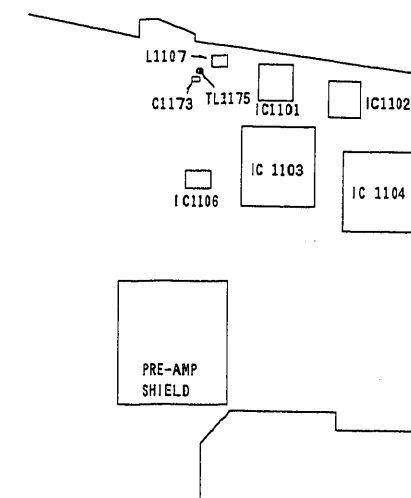

Fig. 2-15 Main Circuit Board (B Side)
(1) Sensor Drive Voltage Adjustment (Fig. 2-15)